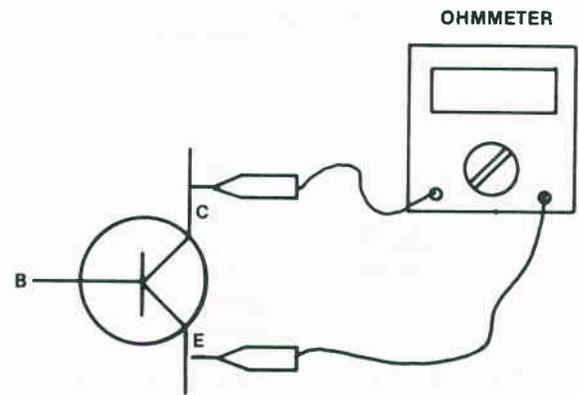

Fig. 6-22. A transistor can be tested using an ohmmeter placed across the collector-to-emitter junction.
The following tests apply to both PNP and NPN transistors. If an ohmmeter is placed between the collector (C) and the emitter (E) as shown in Fig. 6-22, it effectively bridges a two-diode combination in which the diodes are opposing. You should get a high resistance reading with the leads applied both ways. (It’s possible to wire the transistor in a circuit that makes the transistor collector-emitter junction act like a single diode. In this case you could get a DE. Both results are O.K.)